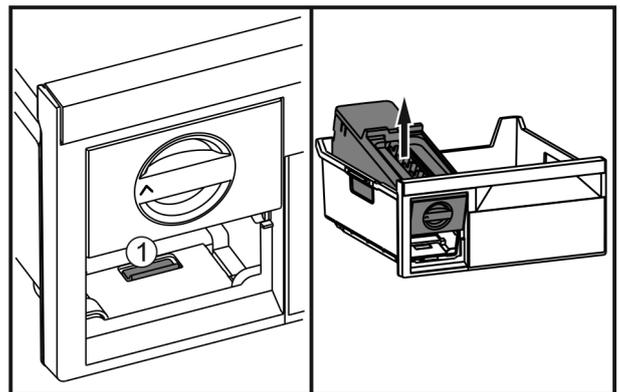

Fig. 50
- ▶ Press the lug Fig. 50 (1), lift up the EasyTwist-Ice at the rear and take it out of the freezer drawer.